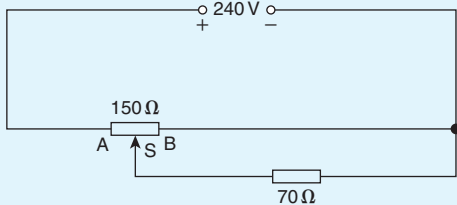

Figure 5.48
5. For the potentiometer circuit shown in Fig. 5.48, AS is 60% of AB. Calculate the voltage across the 70 Ω load. [63.40 V]